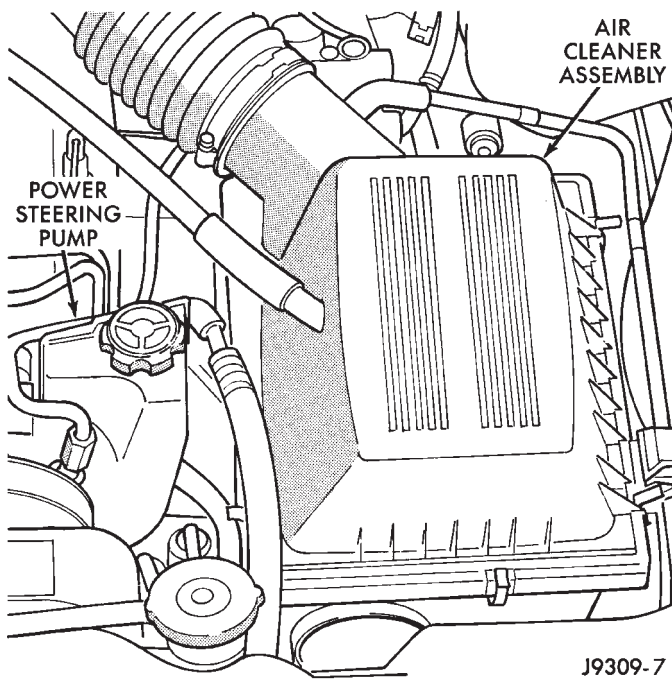

Fig. 11 Air Cleaner Assembly & Power Steering Pump
(19) Remove the fuel line bracket from the intake manifold.
(20) Remove the air cleaner assembly (Fig. 11).
(21) Remove the power brake vacuum check valve from the booster, if equipped.
(22) Vehicles with Power Steering (Fig. 11):